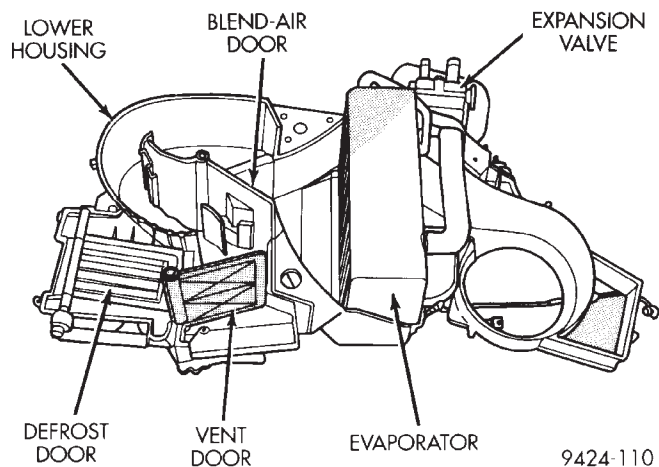

Fig. 72 Lower Housing
- (18) Separate upper housing from lower housing (Fig. 72).